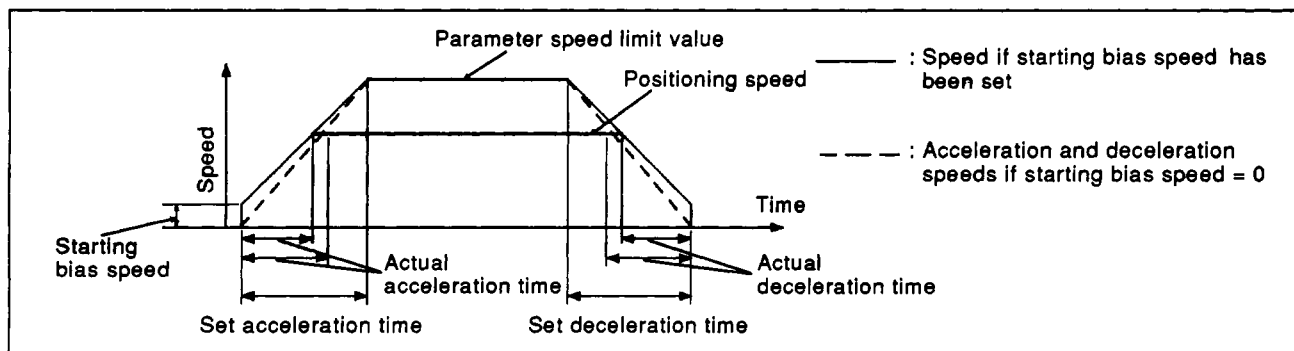

Fig. 3.5 Acceleration and Deceleration Times
(10) Manual pulser inching travel increment
(11) Acceleration and deceleration times
- Defines the period of time from the start of positioning to when the speed limit value specified in the parameter is reached. (Refer to Fig. 3.5.)